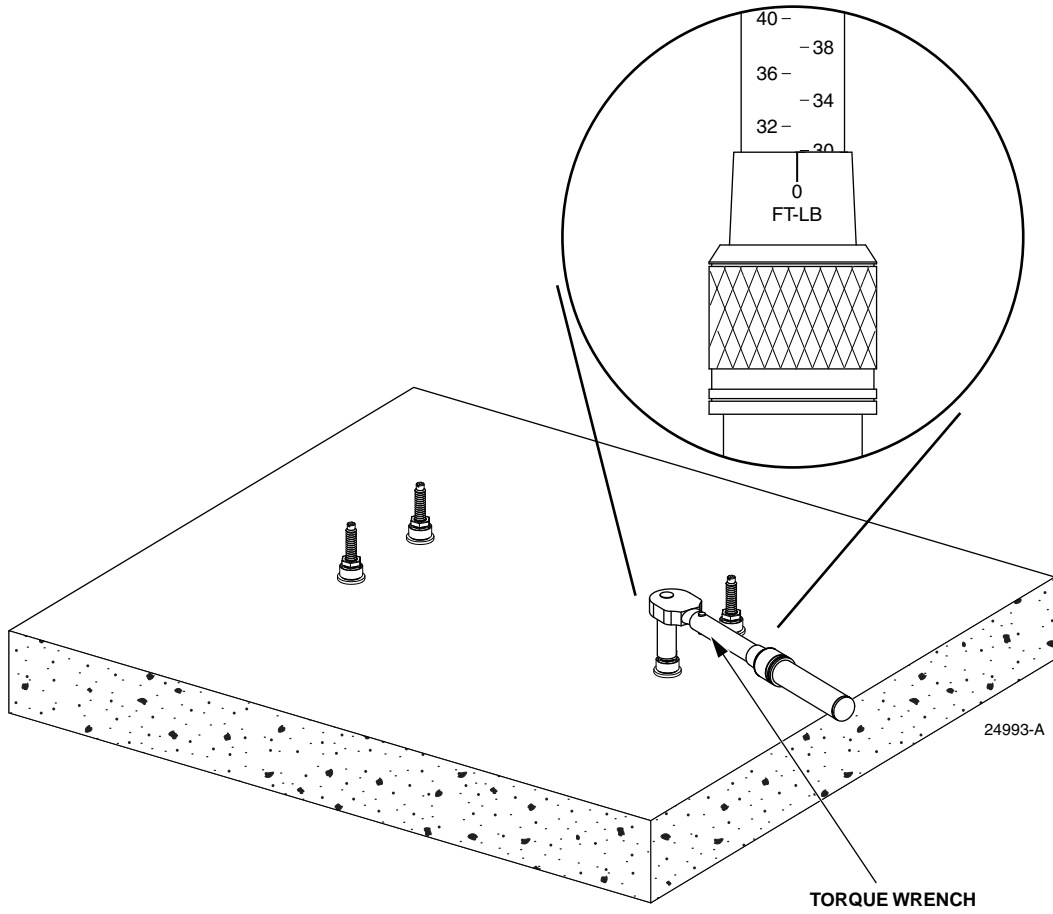

Figure 7. Pre-torquing Anchor Bolt
5. Pre-torque the anchor bolt to approximately 30 foot-pounds (41 Newton meters). Refer to Figure 7.